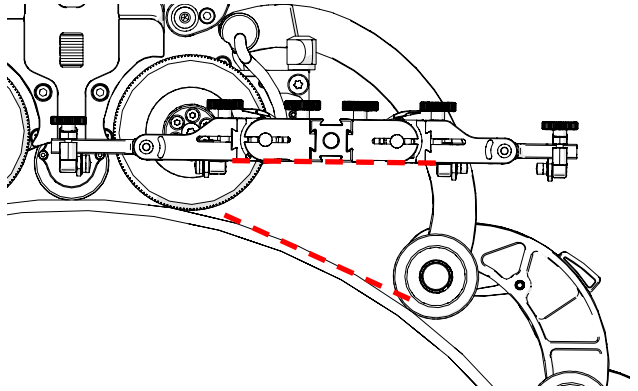

Fig. 198 - Incorrect swivel mount position
13. Proper setup of the frame bar and probe holders is required (Fig. 198).